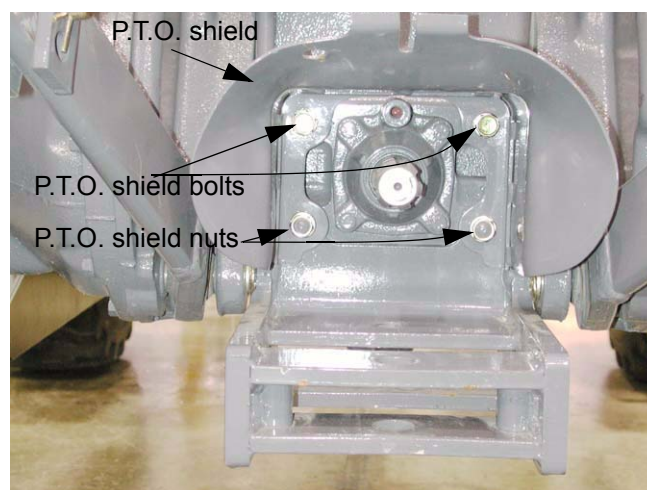

Figure 1.13
1.13. Remove the two nuts and two bolts that secure the P.T.O. shield to the back of the transmission using an 18 mm wrench. See Figure 1.13.